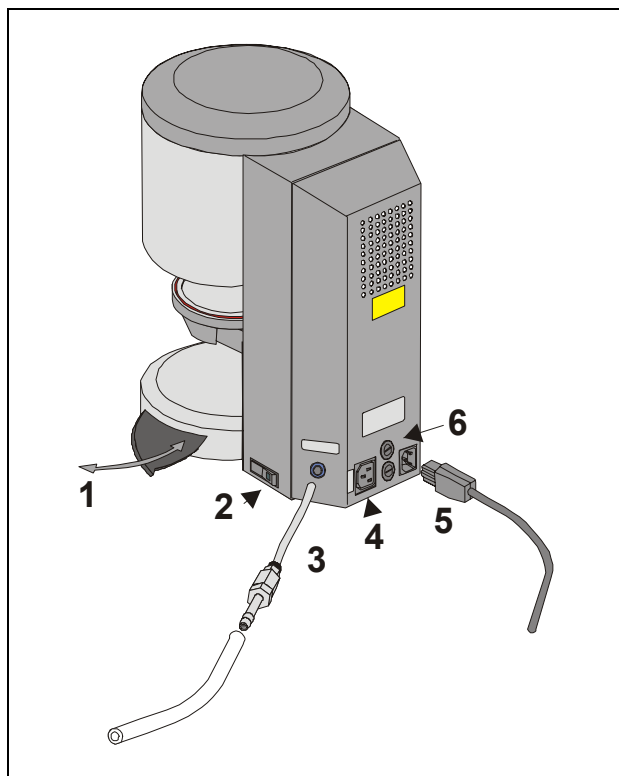

Abb. 1
- Connect the vacuum pump (Abb. 1)
- Use the supplied mains lead to connect the unit to the mains supply (Abb. 1). The connecting cable should be a hot equipment supply lead of type HO5RR-F 3G1,0 mm2. Avoid connecting to a multiple socket outlet with extension lead, because there is a risk of fire when overloaded.
If the unit is not used the lift should be retracted into the firing chamber and the unit switched off by the main switch (see Fig. 1, item 2). Closing the firing chamber protects the insulation and prevents the absorption of moisture.